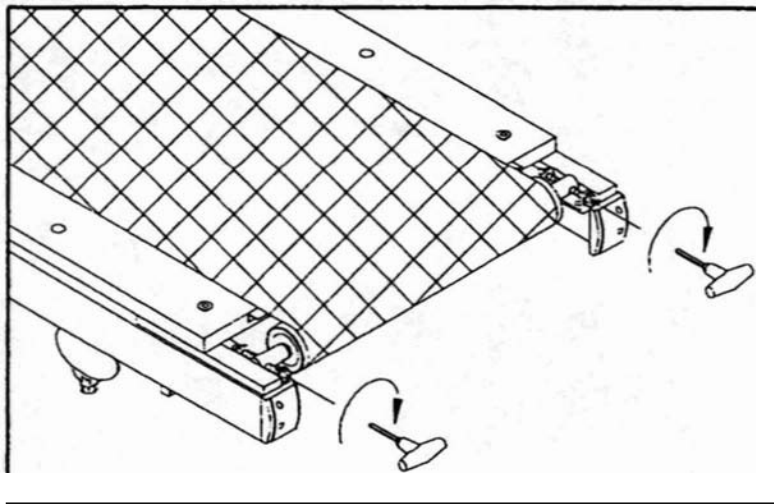

Fig.8
3. Secure the rear roller with screws, and adjust proper tension. (see Fig.8)